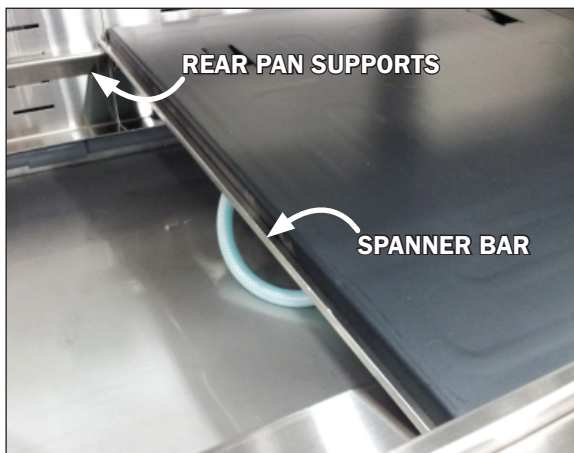

Fig. 16 Spanner bar & rear pan support
3. Rear pan supports (Fig. 16) are used to supply support to the back of the Coolgenix pans, as well as allow for adjusting the angle and height of the pans.